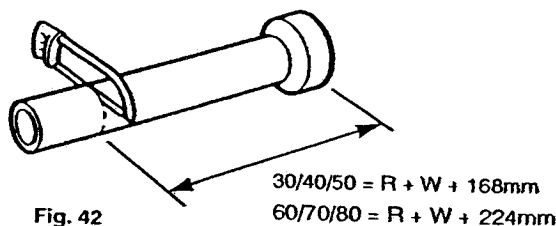

Fig. 42
6. Mark off the appropriate length from the swaged end of the flue duct. Cut the duct to length and dispose of the unwanted length. (Use the tape provided to give an accurate cutting guide by wrapping it around the flue duct with the edge marking the cutting line) (Fig. 42).